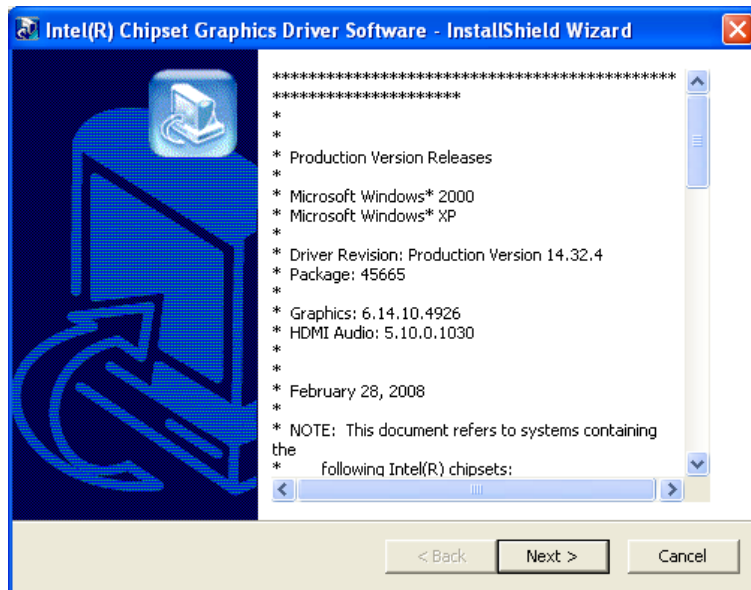

Figure 6-10: VGA Driver Read Me File
- Step 3:** The VGA Read Me file in Figure 6-10 appears.